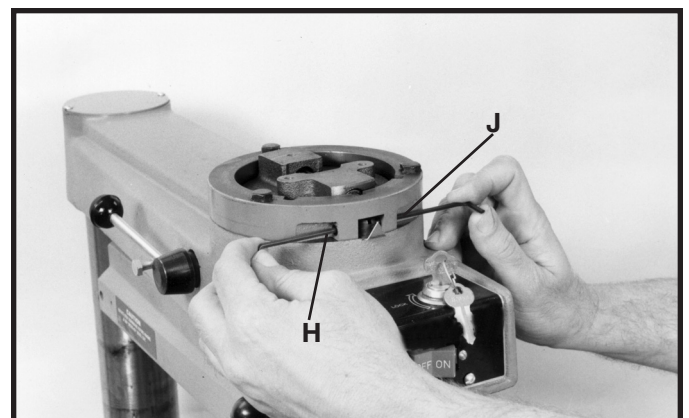

Fig. 53
7. To move front end of track arm to the right, loosen set screw (H) Fig. 53, and tighten set screw (J). To move front end of track arm to the left, loosen set screw (J) and tighten set screw (H).